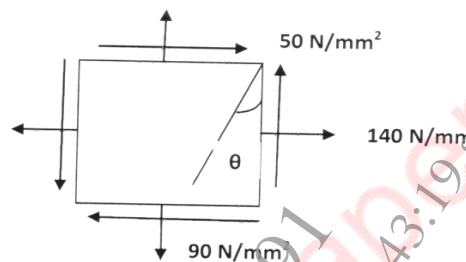

figure 4
- Q6) a)** A rectangular block of material is subjected to stresses on perpendicular faces as shown in figure 4. Using Mohr's circle of stress, find [9]